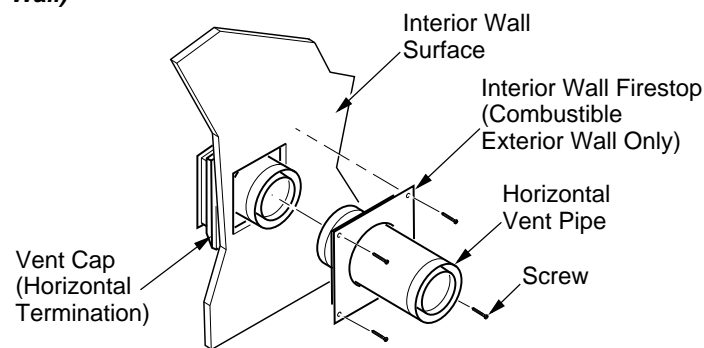

Figure 20 - Connecting Vent Cap with Horizontal Vent Pipe
5. **Combustible Exterior Wall Only:** Slide the interior wall firestop over the vent pipe before connecting the horizontal run to the vent cap (see Figure 20).
7. **Combustible Exterior Wall Only:** Slide the wall firestop against the interior wall surface and attach with screws provided (see Figure 20).